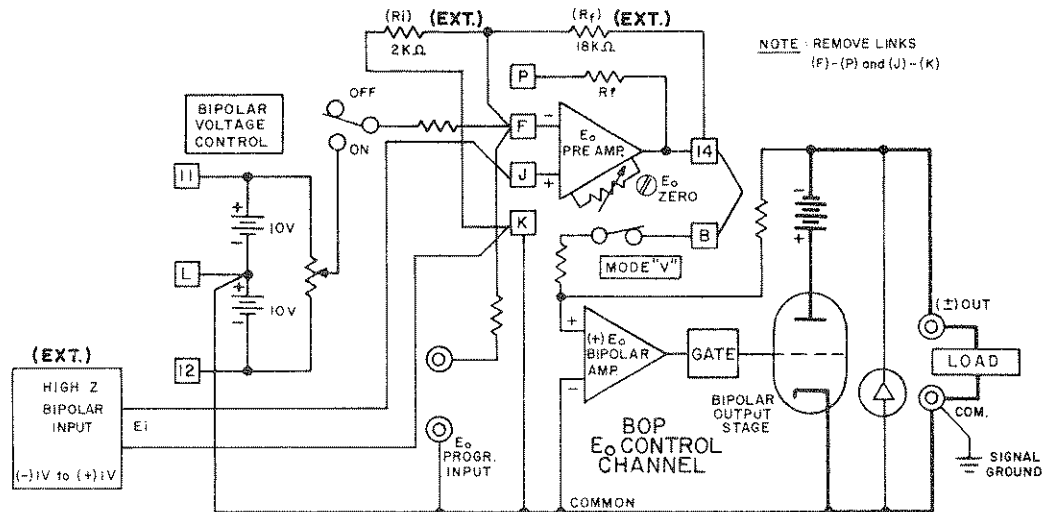

FIG. 3-7 BOP D-C OUTPUT VOLTAGE CONTROL WITH A HIGH IMPEDANCE, $(\pm) 1$ V SIGNAL SOURCE
- 3-20 If, for example, the BOP d-c output voltage is to be controlled by means of a bipolar, 1 volt, high impedance source, it can be connected to the BOP as shown in FIG. 3-7.
- 3-21 As seen in FIG. 3-7, the original input feedback components of the E_O PRE-AMP have been bypassed and are replaced by external resistors (small, metal film or wirewound type resistors may be used and connected directly to the REAR PROGRAMMING CONNECTOR terminals as shown). The E_O PRE-AMP is used in the non-inverting configuration. Its output voltage (the necessary BOP control voltage) is given by: